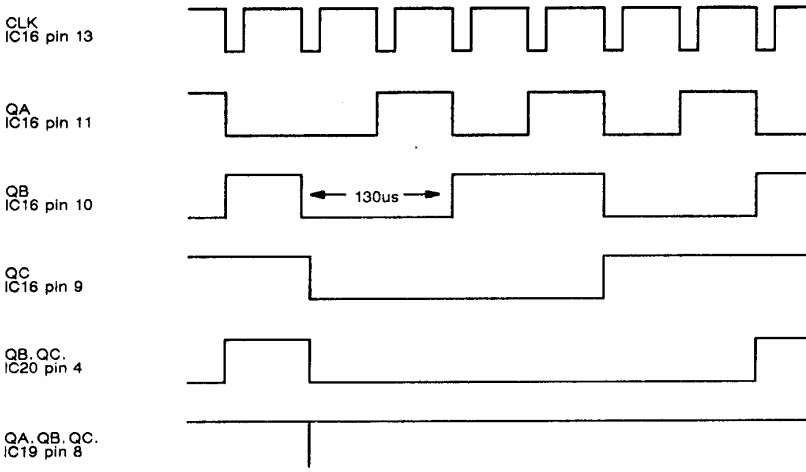

Fig. 5-3-4 Columns counters timing waveform diagram for AB3/2
- (3) Check the operation of the columns counters and associated circuits by reference to the timing diagram shown in Fig. 5-3-4.